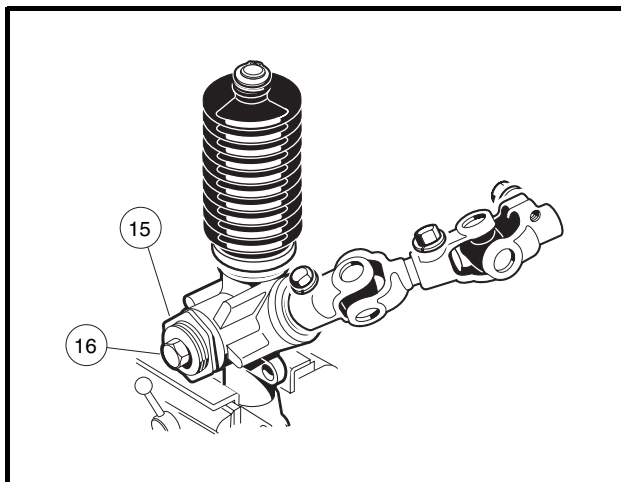

Figure 7-13 Rack and Pinion Adjustment
12.4. If measured resistance does not equal 7 to 15 in-lb, loosen the lock nut (15) and tighten the screw (16) until it bottoms out, then back the screw off one quarter turn. Tighten the lock nut to 28 ft-lb (38 N·m) (**Figure 7-13, Page 7-11**). **See following NOTE.**
NOTE: When tightening the lock nut (15), make sure the screw (16) does not change adjustment (**Figure 7-13, Page 7-11**).